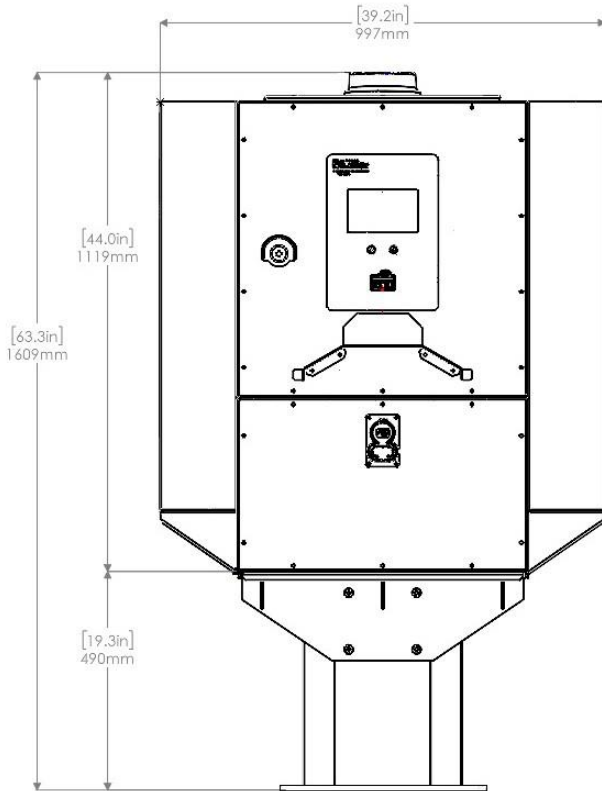

Figure 2.1 - Height and Width of 60kW Charger and Pedestal
1. Become familiar with essential dimensions of EV Quick Charger EVQC060-3xxx and pedestal as shown in Figure 2.1, 2.2, and 2.3.